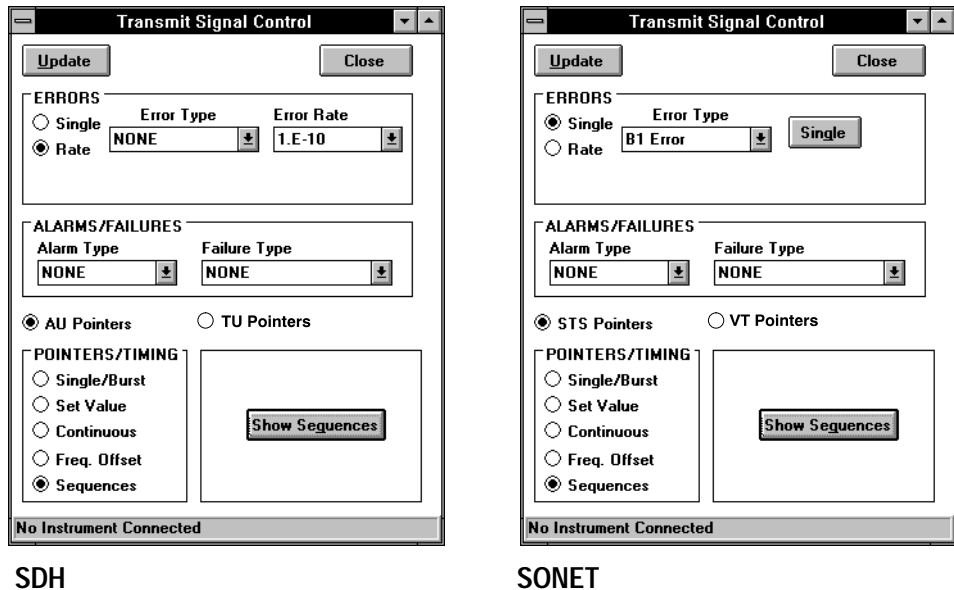

Figure 3–34: Selecting pointer sequences
3. Click on the **Show Sequences** command button to display the Pointer Sequences Window. See Figure 3–35.